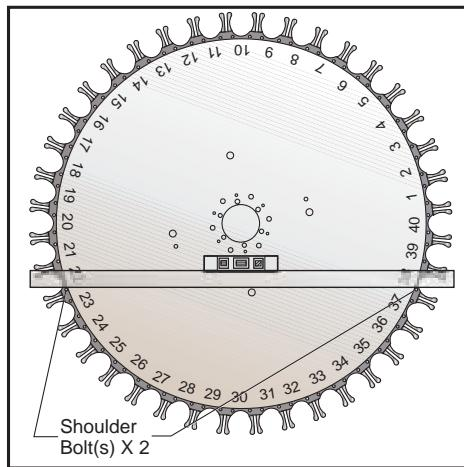

Figure 3.8-12
7. Move to the **SETTING** screen. Cursor to Setting **(7) PARAMETER LOCK**. Toggle the **PARAMETER LOCK** to “**OFF**”, then press the **WRITE/ENTER** button to enter this value.
14. Install two  $\frac{1}{4}$ -20 x 2 in. shoulder bolts into threaded holes on the face of the carousel as shown in Figure 3.8-12. Place a 48" bubble level or a flat bar with a torpedo level across the two shoulder bolts.